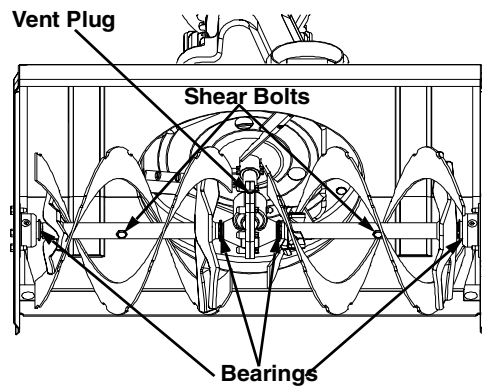

Figure 21
- At least once a season, remove the shear bolts from the auger shaft and spray lubricant inside the shaft. See Figure 21.
- Every season lubricate the auger bearings and the bearings on the side of the frame with light oil. See to Figure 21 .